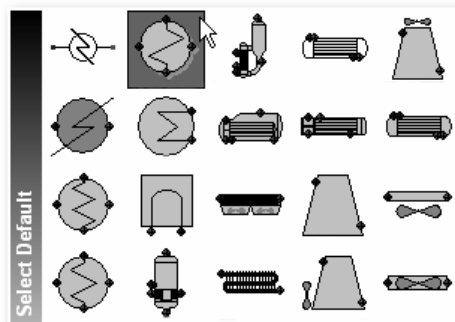

Figure 11-03: Selecting the two-sided heat exchanger icon
- Click the lower right corner of the **Heat Exchanger** icon, on the black triangle, to open the sub-palette. Select the two-sided heat exchanger icon as shown in Figure 11-03. The icon that you clicked in the sub-palette now appears on the main All UnitOps palette to represent the Heat Exchanger UnitOp.